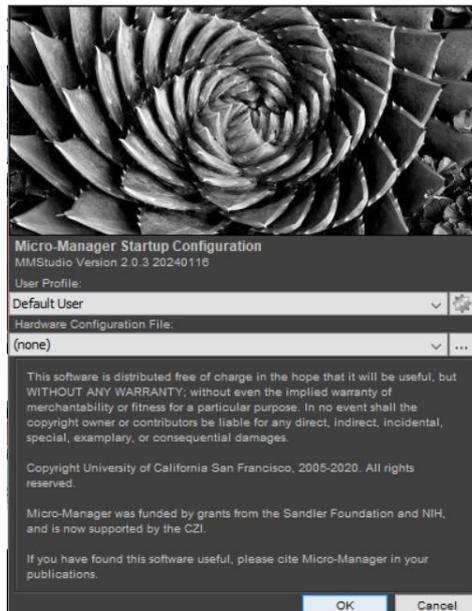

Figure 3: Starting up  $\mu$ Manager, select or start new Hardware Configuration File
2. Once installed, at startup (Figure 3), select your desired hardware configuration file, or a start a new one by selecting (none).